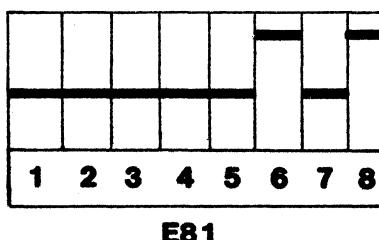

Figure C-1 Switch Pack E81.
1. The first thing you should do is place switch number 6 in rear panel switch pack E81 in the UP position. (See Figure C-1). This will tell the printer to use the cut sheet feeder. (Remember that a change in these switch positions is only recognized by the printer at power ON. Thus, you must make sure the power is OFF while you are changing the setting.)